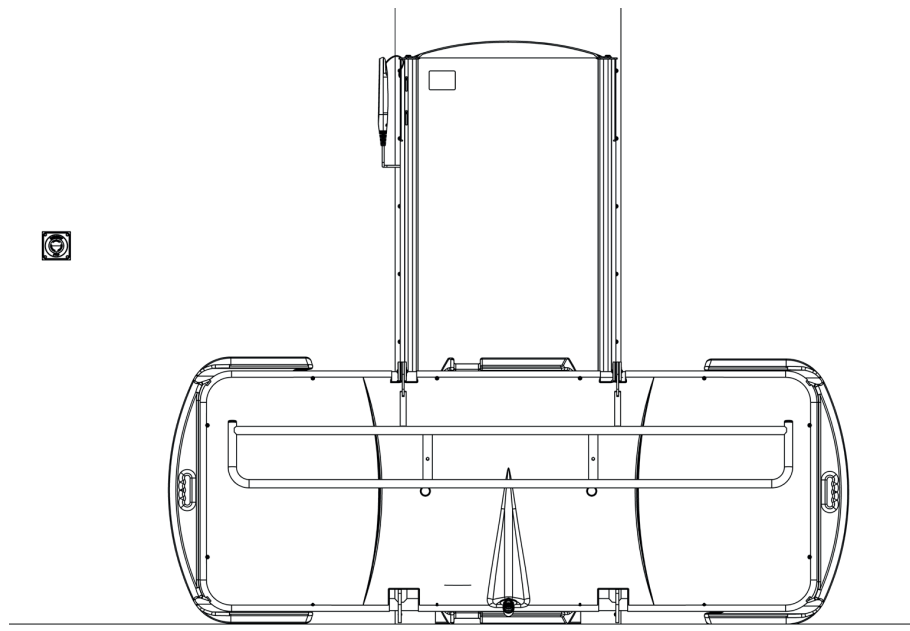

Fig 12.7b
- Bring the stretcher towards the product and rest as shown in Fig 12.7b.